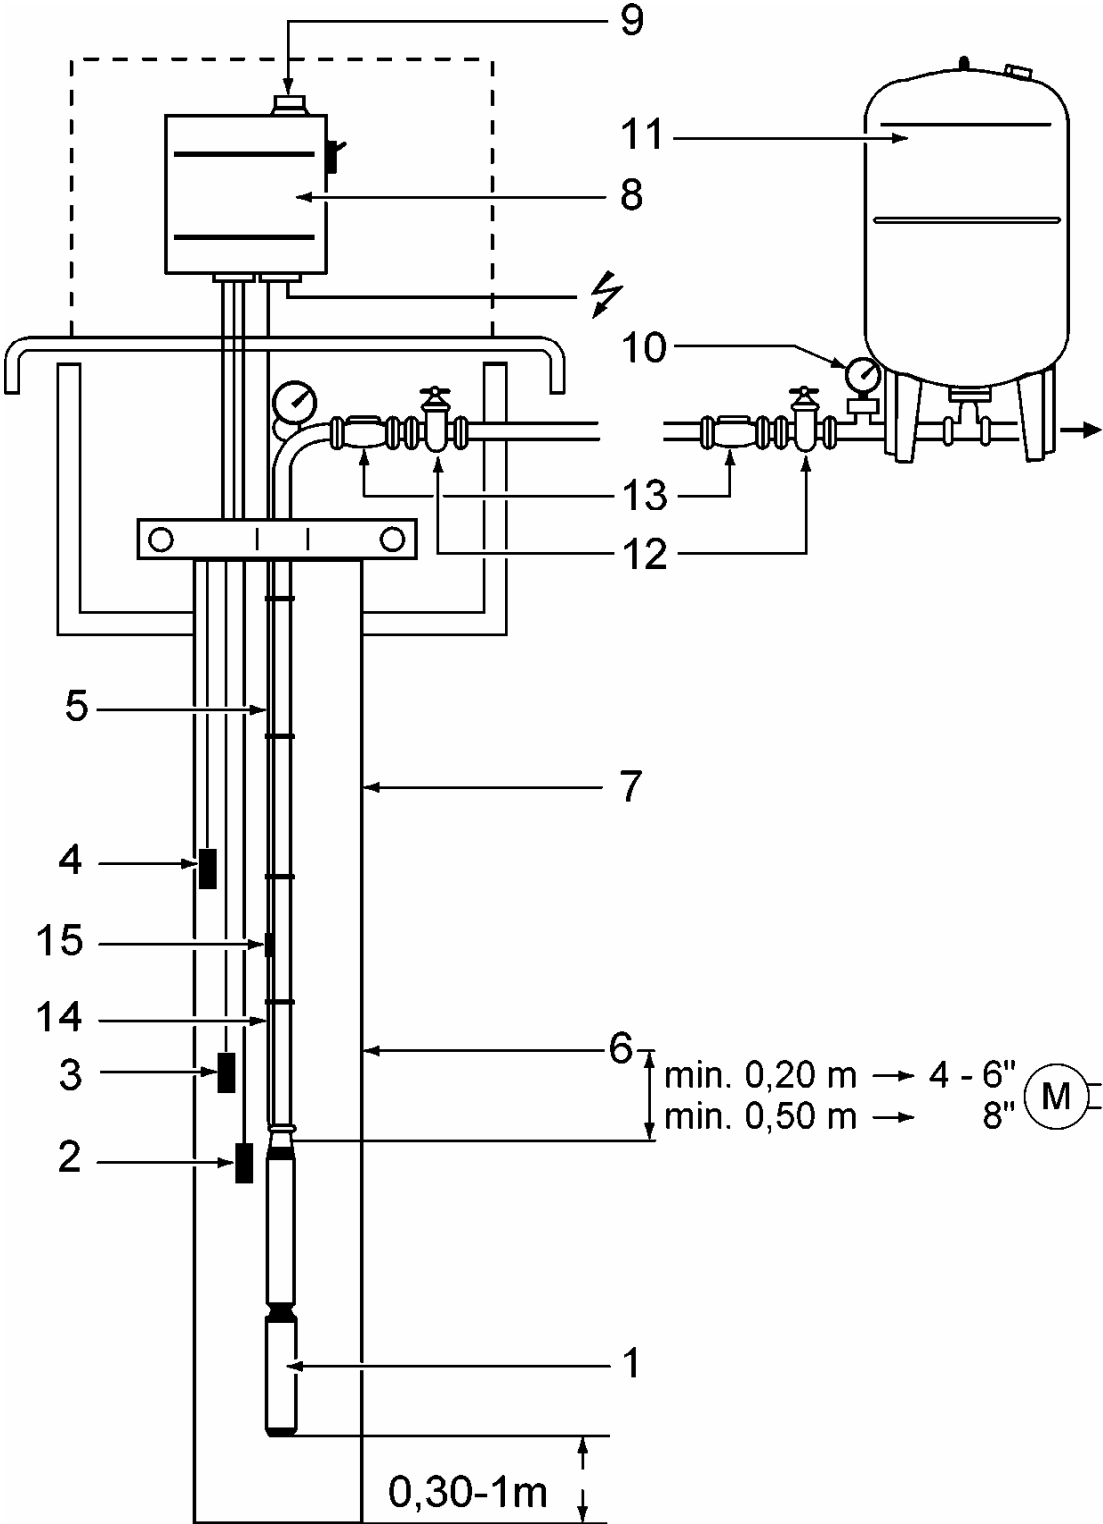

Fig. 1
- The final installation position must be guaranteed such that the pump sits at least 1 foot above the bottom of the bore-hole or well (fig. 1).
## 5.2 Hydraulic connections (see fig. 1)